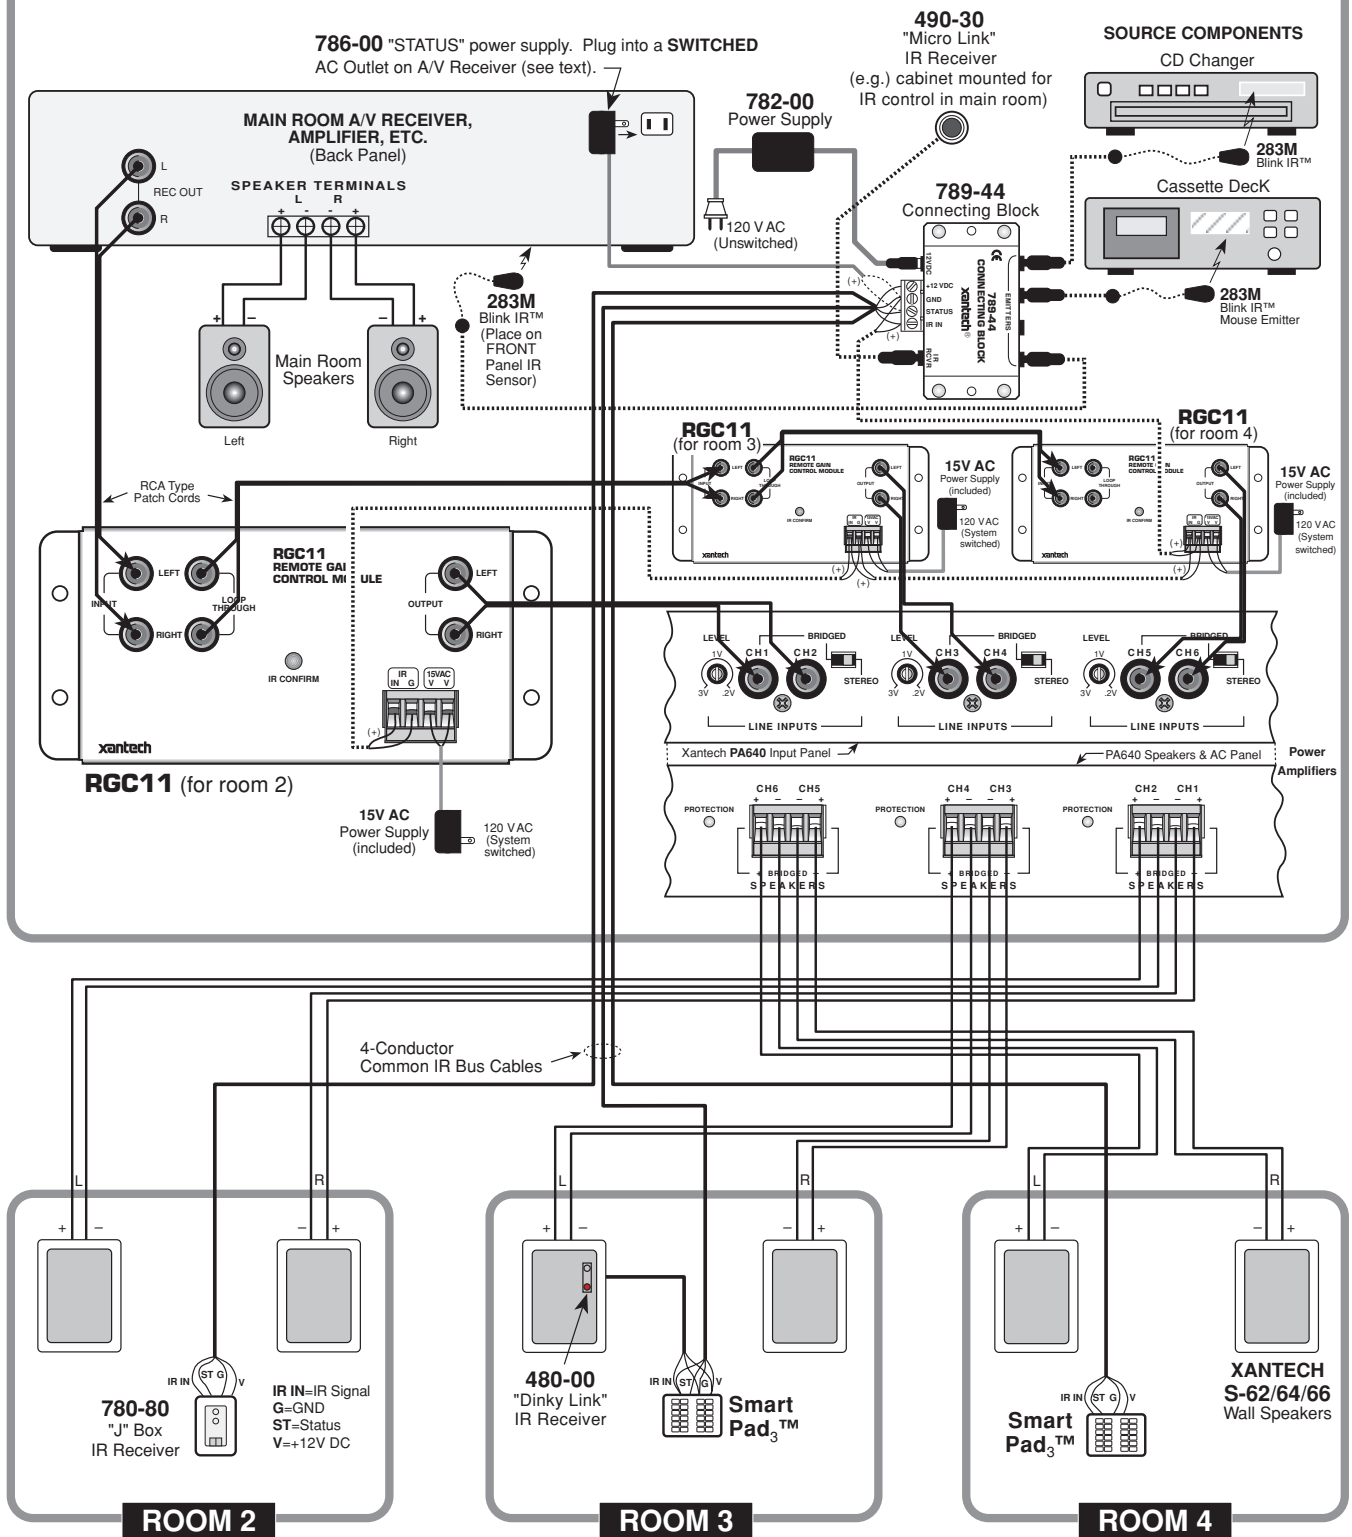

Fig. 3 An RGC11 System Using a Common IR Bus
**Fig. 3** illustrates a typical installation using three RGC11's along with other Xantech products in a 4-room **common IR bus** system. The principles shown should be used as a guide when planning your own specific installations. It is configured as follows:
**Fig. 4** illustrates an installation where each remote room has a **Dedicated IR Bus** going to the RGC11 that controls it. The IR bus is not connected in common as it is in Fig. 3. This eliminates the need for dedicated remotes, **allowing you to carry the same remote(s) from room-to-room**. It is configured as follows:
8. As in **Fig. 3**, a "STATUS" system is included. See items 6 and 7 under: Installation - Common IR Bus.